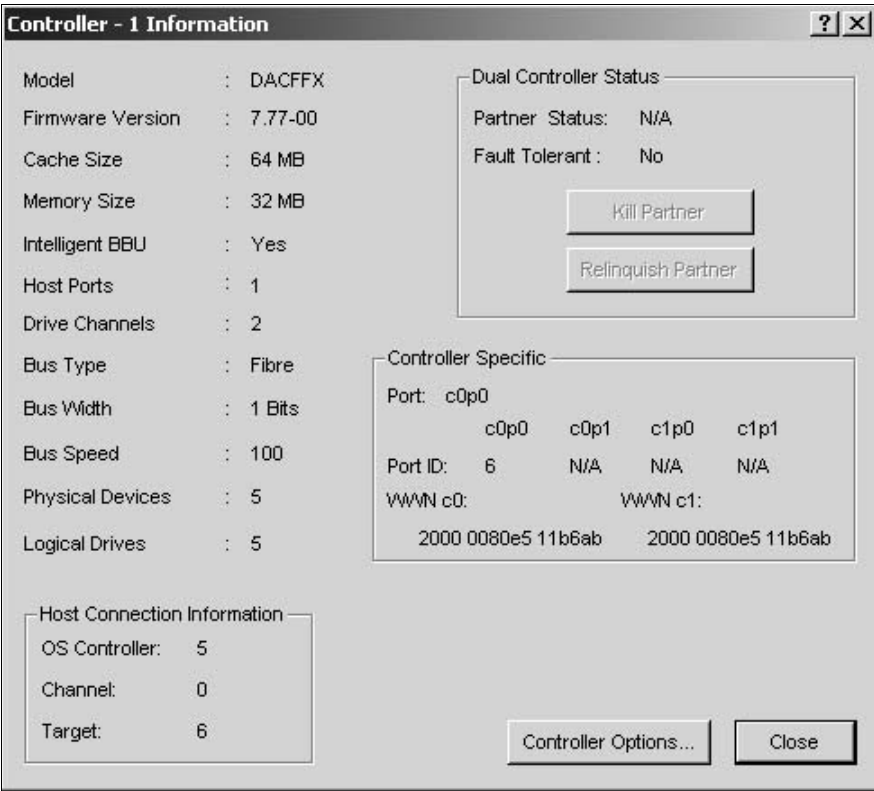

Figure 3: SAM Controller Information Window (simplex)
- Display the SAM Controller Information window (figure 3) by clicking *Administration/Controller Information* on the menu bar or the *Controller Information* icon.